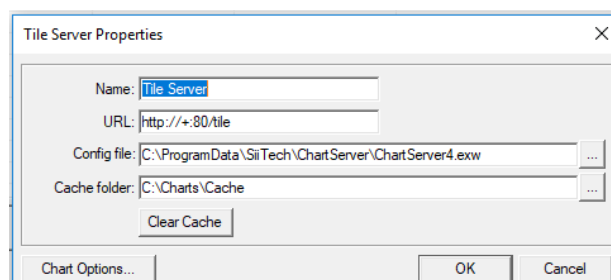

Figure 83: Tile Server Properties
2. Open the ChartServer Software. Click the EDIT menu and select "New Tile Server" (Figure 83).